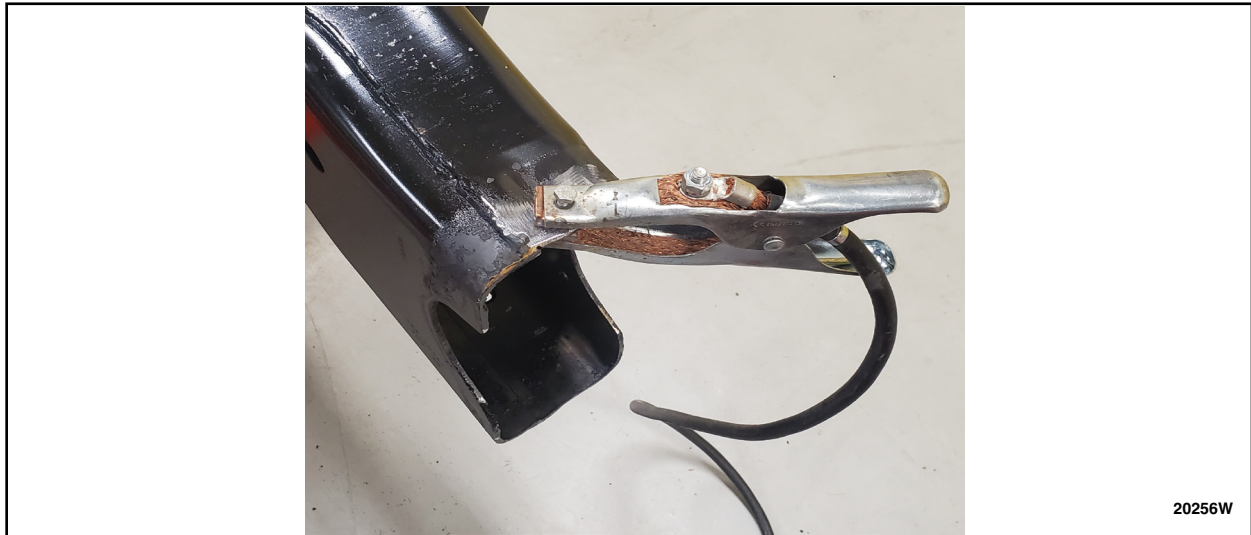

FIGURE 16
23. Remove the paint from a section of the frame close to the repair area and place a ground clamp on it. Make sure there is a solid mechanical connection that will not slip or fall off. See Figure 16.